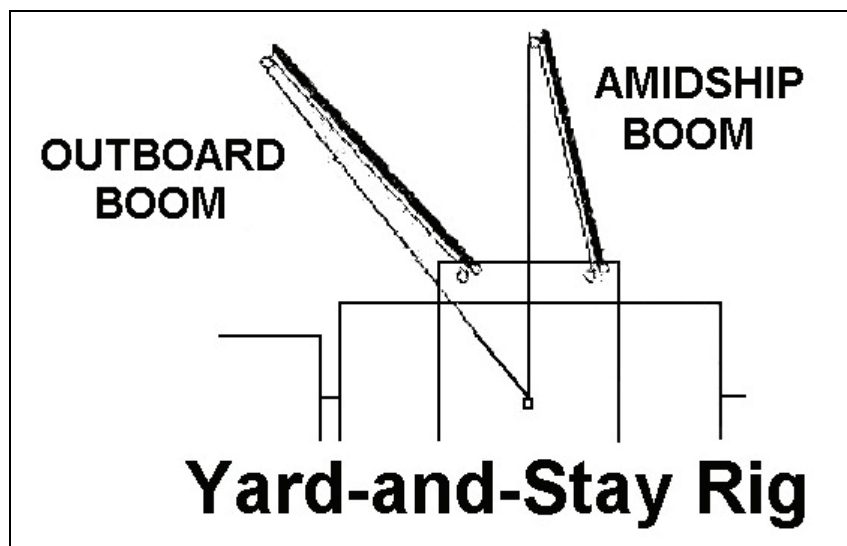

Figure 3-30. Yard-and-Stay Rig Standard Cargo Rig
1. Rig a yard-and-stay rig (see Figure 3-30).